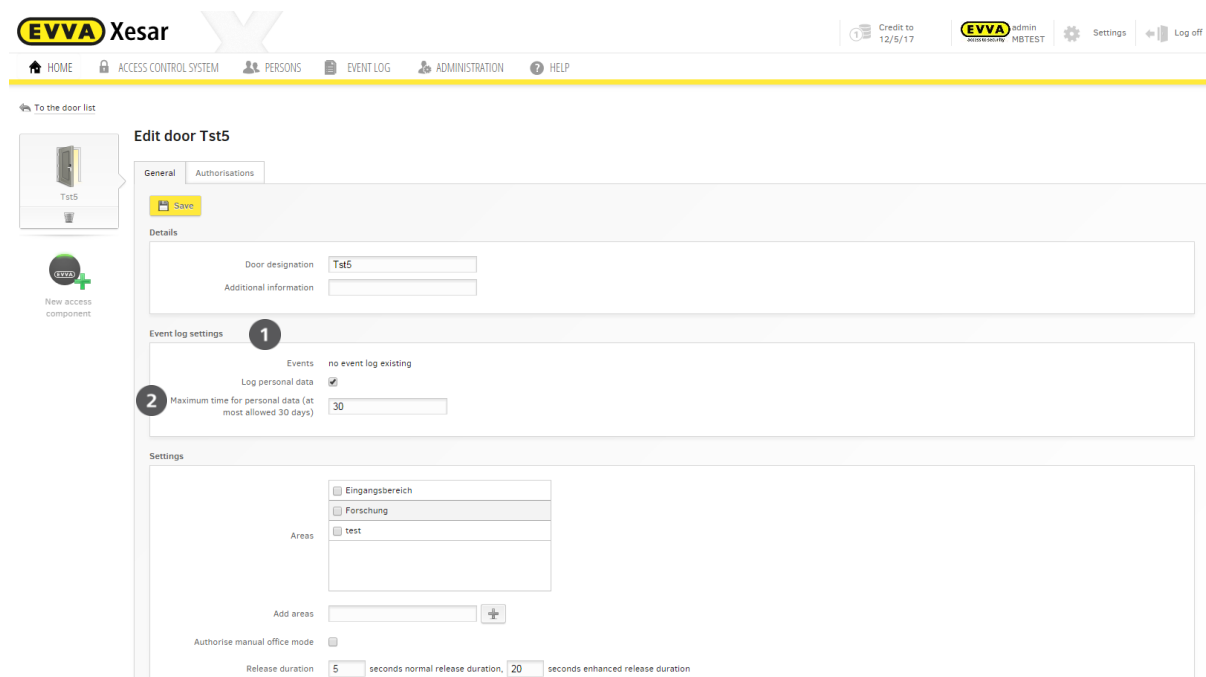

Figure 83: Creating doors and logging personal data
Click **Save** to save any changes you made to settings. The **New Xesar access component** icon ③ (Figure 83: Creating doors and logging personal data) automatically appears as soon you have saved the new door.
The **Edit door** menu item allows to edit all settings for the Xesar access components within the context of the affected door (Figure 83: Creating doors and logging personal data).